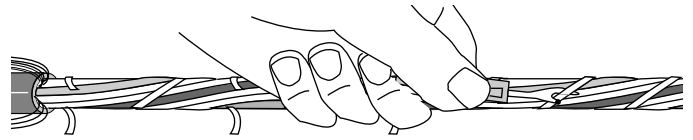

Figure 28
**7.7** Use a seam ripper every 5 cm (2 in.) to cut the binding tape(s) that secures the buffer tubes to the dielectric central member. **USE EXTREME CAUTION** to prevent buffer tube damage (Figure 28).